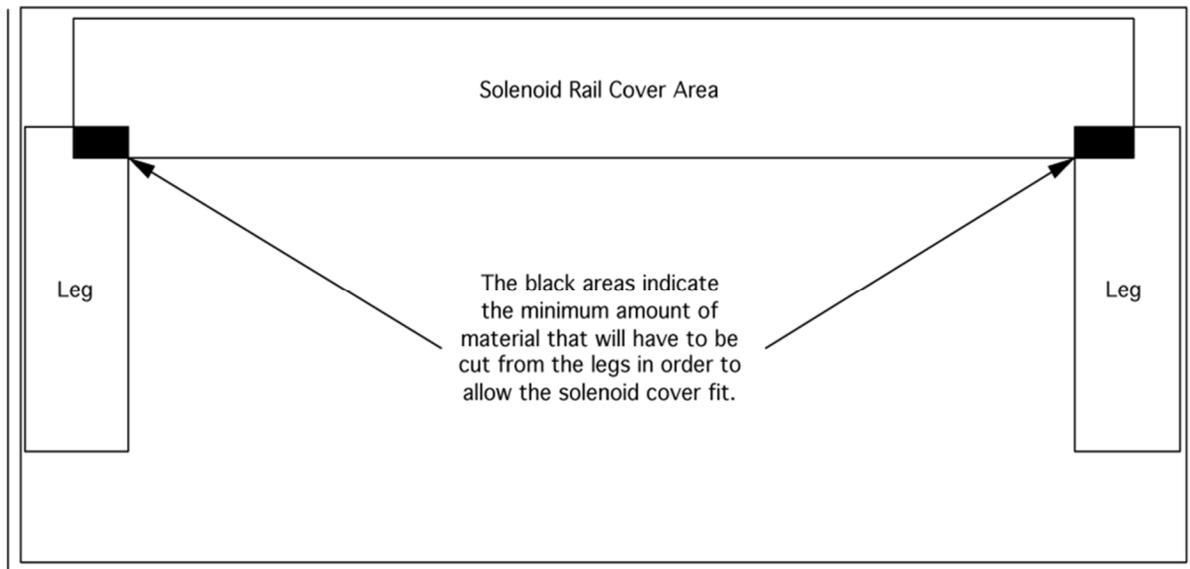

Figure 12
- C. Mark the cutout on the top of the legs. Cut the legs with a jig saw. File or sand the area of the leg cut. Stain or paint exposed area to match the finish of the piano. (See Fig.12)